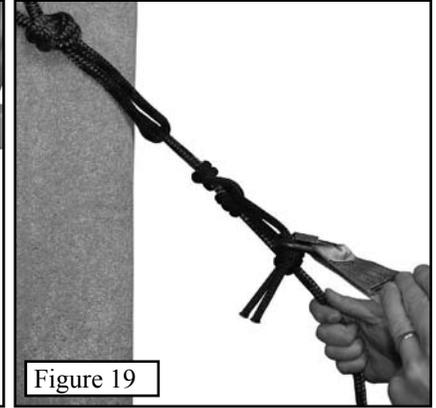

Figure 19
Step 1. Now that your platform and seat section are attached to the tree, you are ready to climb. It is **MANDATORY** that you use a safety harness as you climb. **Be sure to read the safety harness instructions for proper use of your safety harness.** Following the Harness Instructions, attach the harness tether to the safety rope. Loop the strap around the tree to secure it. See Figure 19.